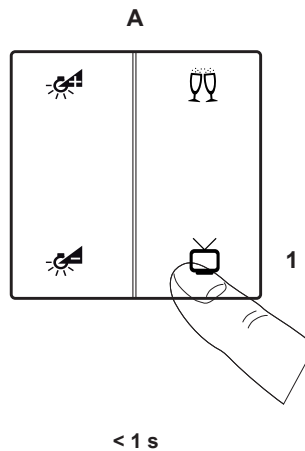

Figure 26: Scene call-up
- Switch on scene (in this example "Scene TV") by briefly pressing the button on the push-button module (Figure 26, A-1)